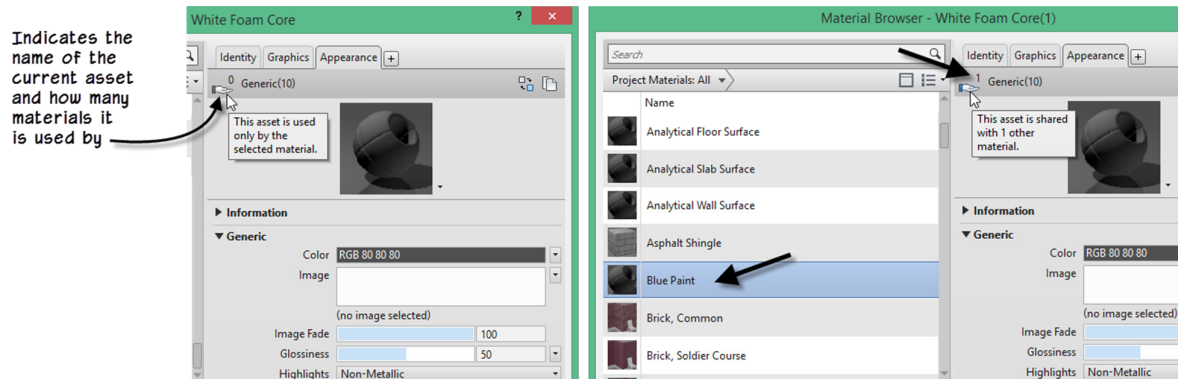

Figure 6—Assets must be carefully managed to avoid unexpected results
Look at the top of the Appearance tab, to the left. You will see a small hand icon with a zero above it. (Next to it the name of the Asset appears: Generic (10) in Figure 6).